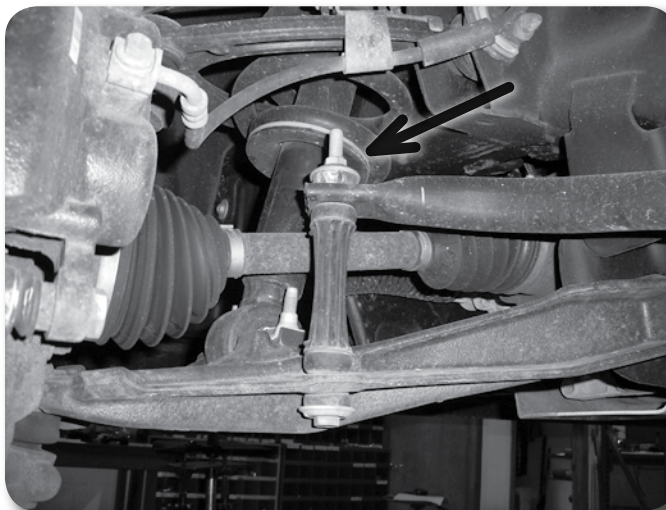

Figure 1
4. Disconnect the front driver's and passenger's side sway bar links from the sway bar. Save hardware. **Figure 1**